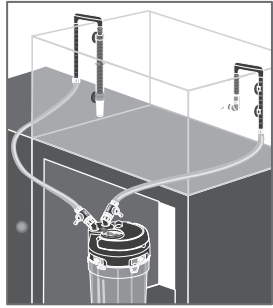

fig 3
- Choose the most suitable location for the inlet and outlet systems and install them with the locking nuts on the outside of the tank. It is suggested that the intake and outlet units should be mounted close to the rear corners, at opposite ends -Fig. 3-.